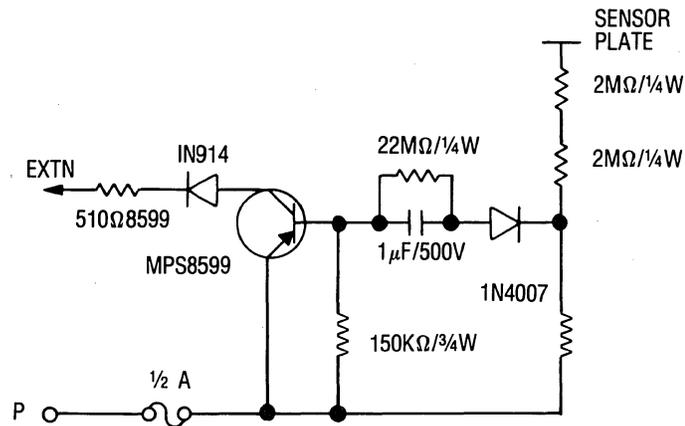

FIGURE 6 — ELECTRONIC EXTENSION
**EXTENSIONS: (Fig. 6).**
All switching and dimming functions can also be implemented by utilizing the slave input. This can be done by either a mechanical switch or the electronic switch in conjunction with a sensing plate as shown in Fig. 6. When the plate is touched, a logical high level is generated at the EXTENSION terminal for both half cycles of the line frequency.